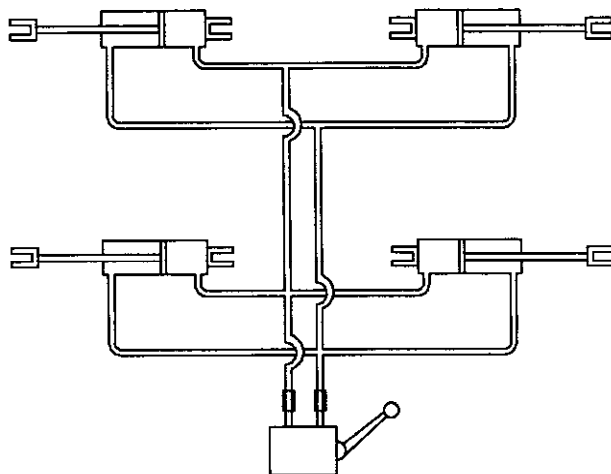

Fig. 3A Four Cylinder Wing Lift Circuit
Fig. 3A shows a simple four (4) cylinder circuit used to fold a pair of wings. This system is used on Wil-Rich Quad 5 field cultivators with a single pair of 9'4" or 11' 8" folding wings.